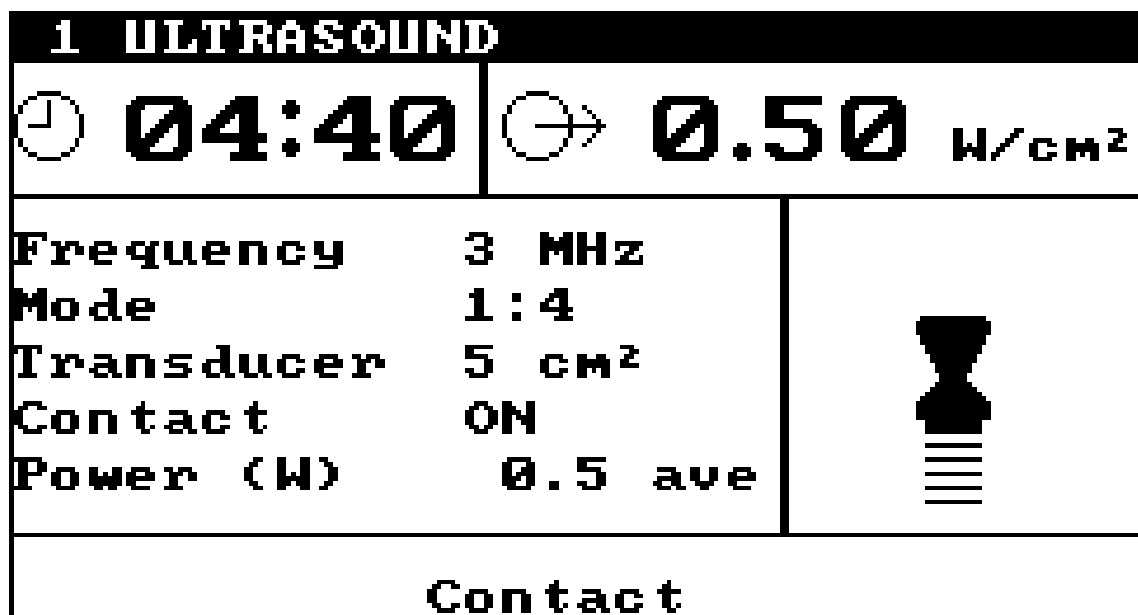

Figure 19 - Contact Alarm
4. If the Output Control on the Ultrasound Module is in the OFF position then the bottom of the screen will show the options available with the four function keys (F1-F4). If the Output Control is not in the OFF position, the message "Turn Output control Off" will flash at the bottom of the screen and an intermittent alarm will sound (figure 19). The Medi-Link will not allow the user to proceed until the Output Control on the Ultrasound Module is returned to the OFF position.
If the contact monitor is on then as the treatment light goes out to show poor contact, the treatment time will cease to count down, the display will flash the message "Contact" at the bottom of the screen and the intensity and power displays will flash (figure 19). When good contact is restored then the word "Treatment" will return to the bottom of the screen, the treatment time will continue to count down and the intensity and power displays will no longer flash. When the Ultrasound Module detects poor contact the power delivered to the transducer is automatically reduced to a low level.